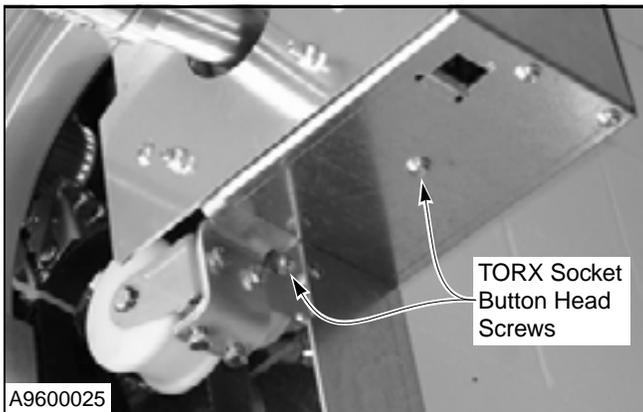

Figure 36
3. Loosen the two TORX® socket button head screws on the bottom of the console. (See Figure 36.)